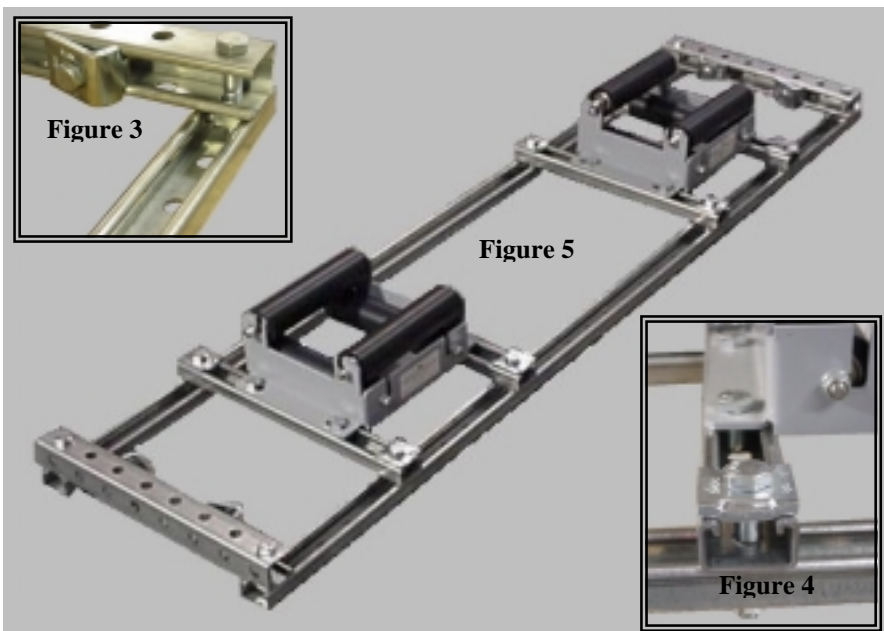
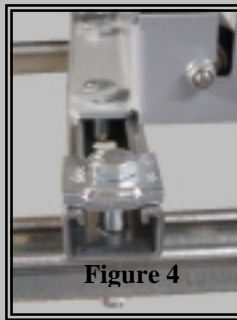

Figure 5
Figure 4
5. Attach the four remaining short rails, to the long rails as shown in Figure 4 using No-twist-square washers, ½" x 3" bolts, and ½" Hex nuts. Attach the short rails, forming a square around the compensating cable(s), with enough spacing to place the Super SwayLess devices on them (Figure 5)
7. Attach the Super SwayLess dampening device(s) to the short rails using ½" x 1" bolts and twirl nuts (Figure 5).